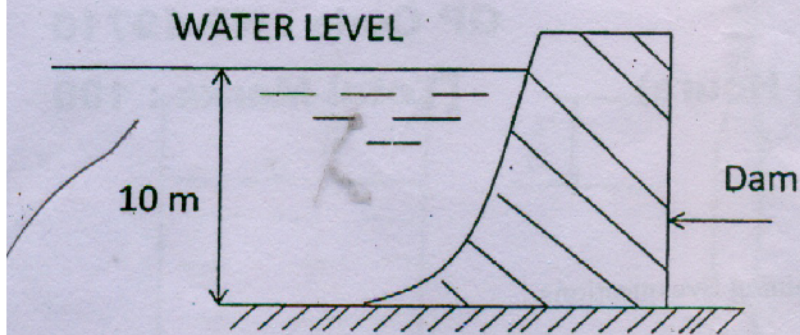

Fig.1
- (1) Find the magnitude and direction of the resultant water pressure acting on a curved face of a dam which is shaped according to the relation $y = \frac{x^2}{9}$ as shown in Figure 1. The height of the water retained by the dam is 10 m. Consider the width of the dam as unity